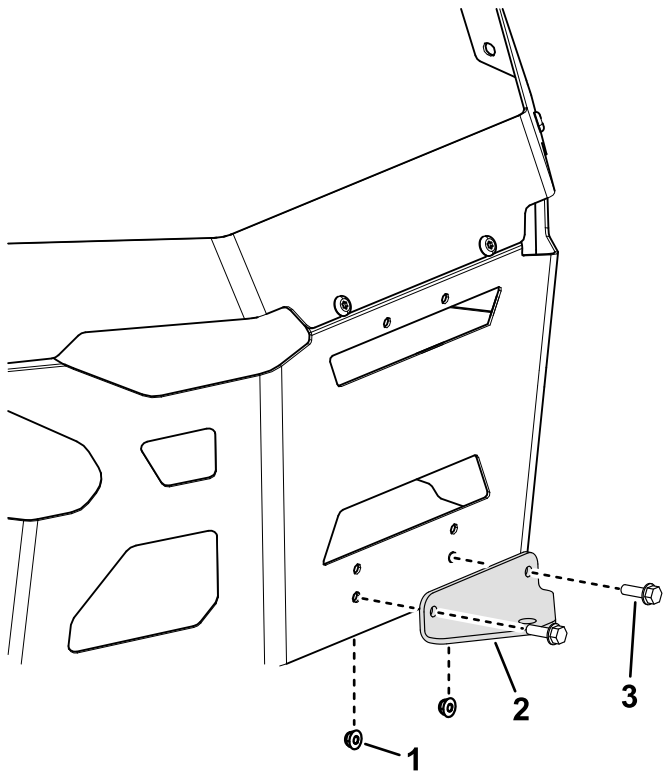

Figure 6
- 2. Remove the existing 2 bolts, 2 nuts, and hitch bracket from the bottom of the guard (Figure 6).